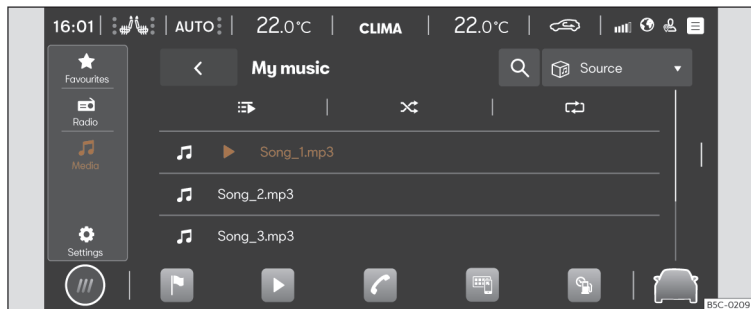

Fig. 171 Schematic diagram: Media view
- Press **HOME** > **▶** > **♪** >>> **Fig. 171**.